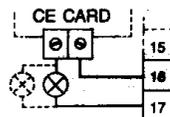

Fig. 2
- 2.C) Connect the 220 V lamp (s) to the two-poles terminal on this card. (Fig. 2)